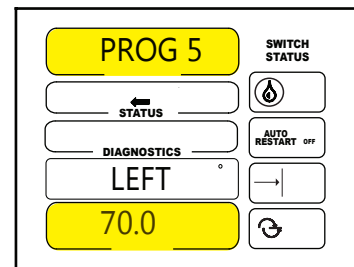

Figure 62-2
2. Set left angle of sector and the direction. See figure 62-2.